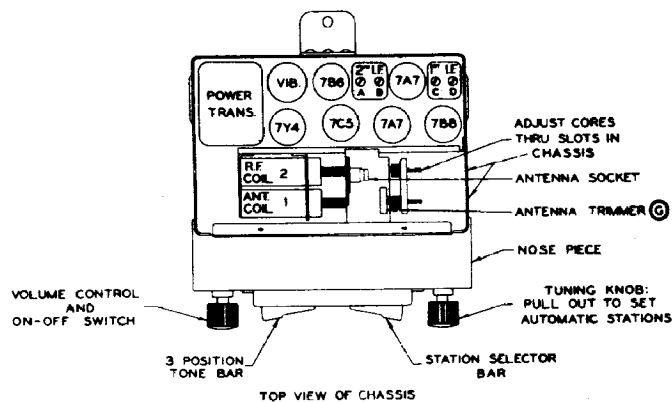

FIG. 9
Tube Layout see Figure 9
Trimmer Locations see Figures 9 and 10
- 5—Adjust trimmers A-B-C- and D (Fig. 9) for maximum output. Repeat the operation to assure accurate alignment.
- 10—Adjust the antenna and R.F. cores (1 and 2—Fig. 9) for maximum output reading.